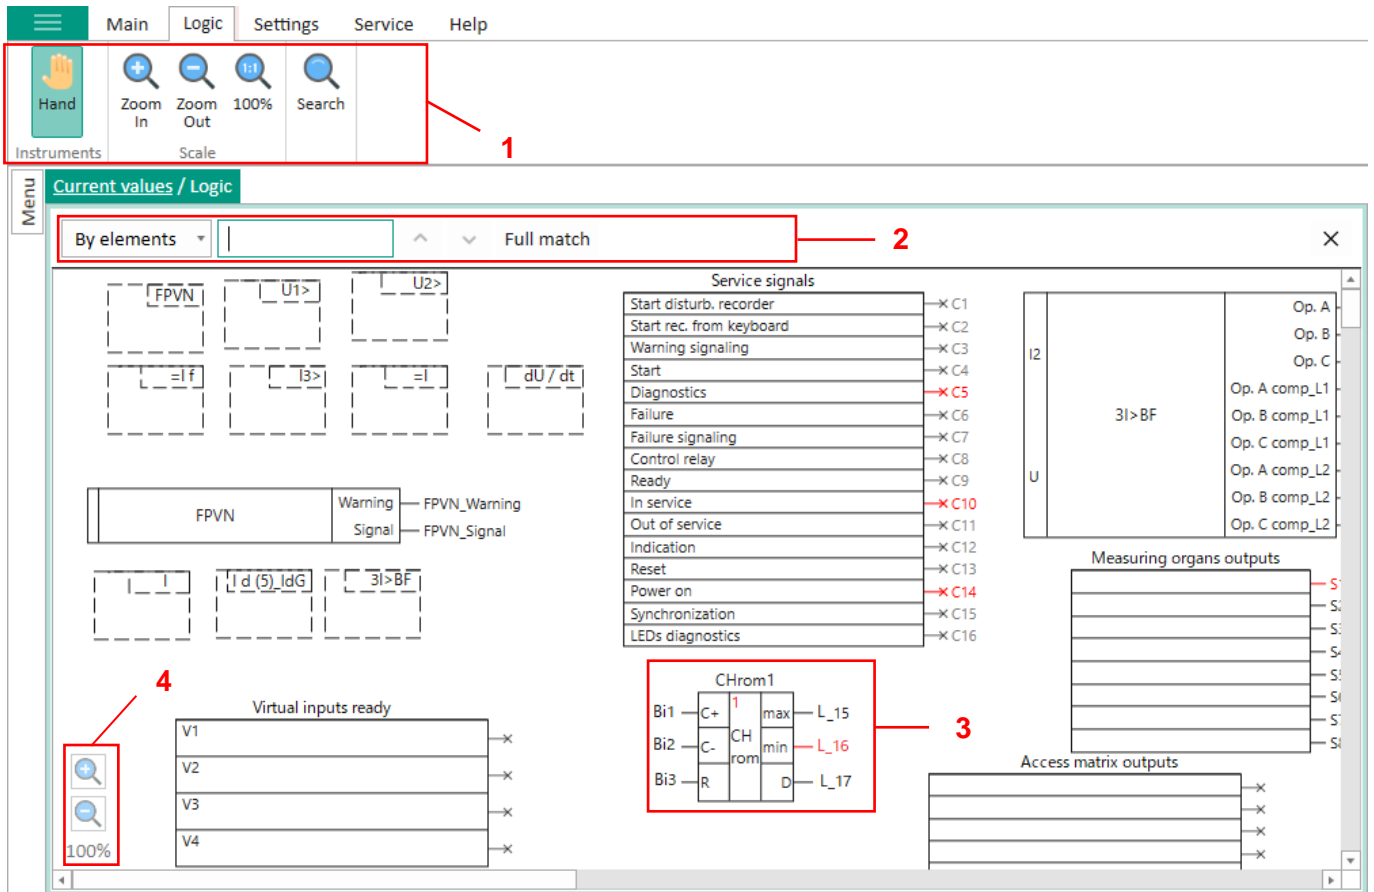

Figure 53 – Logic window
The **Logic** window (figure 53), device tree menu item **Actual values** → **Logic**, displays the state of all logic components in real time. The red color indicates the state of signals corresponding to the logical “1”.
The toolbar allows you to scroll the diagram using the **Hand** tool, zoom and search the logic diagram (figure 53, item 1).
When you click on button  a search field will appear (figure 53, item 2). The search is possible by the name of elements or by the name of addresses. The search result is highlighted in blue (figure 53, item 3).
Also, the scale of the logic diagram can be changed using buttons ,  (figure 53, item 4).